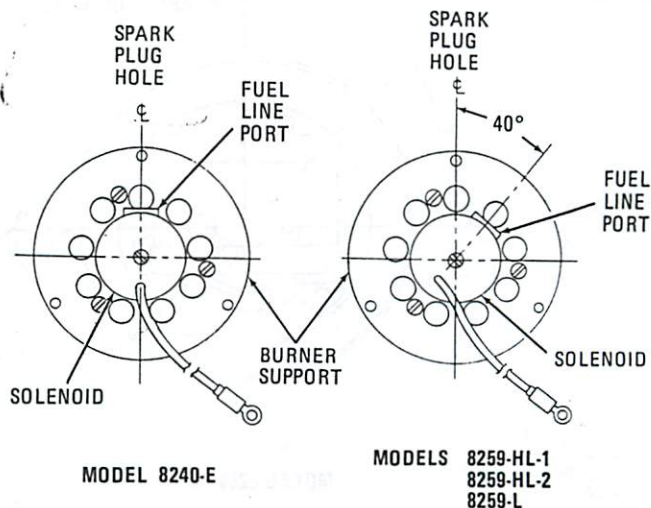

Figure 6-1. Orientation of Spark Plug Hole to Fuel Line Port of Burner Assembly
Do not overtighten screws (2) mounting nozzle holder to burner. Before tightening these screws, make sure that the fuel line port is properly oriented to the spark plug hole for the model heater being serviced. Refer to figure 6-1.